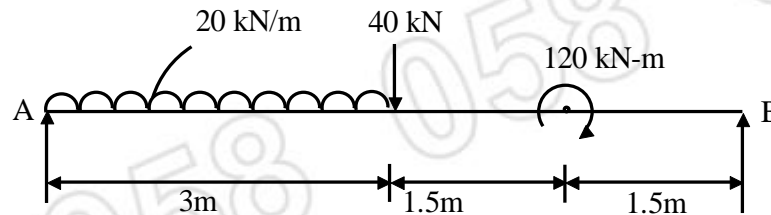

Fig. 3
4. Draw shear force & bending moment diagram for the beam shown in fig. 3. & define point of contra-flexure.